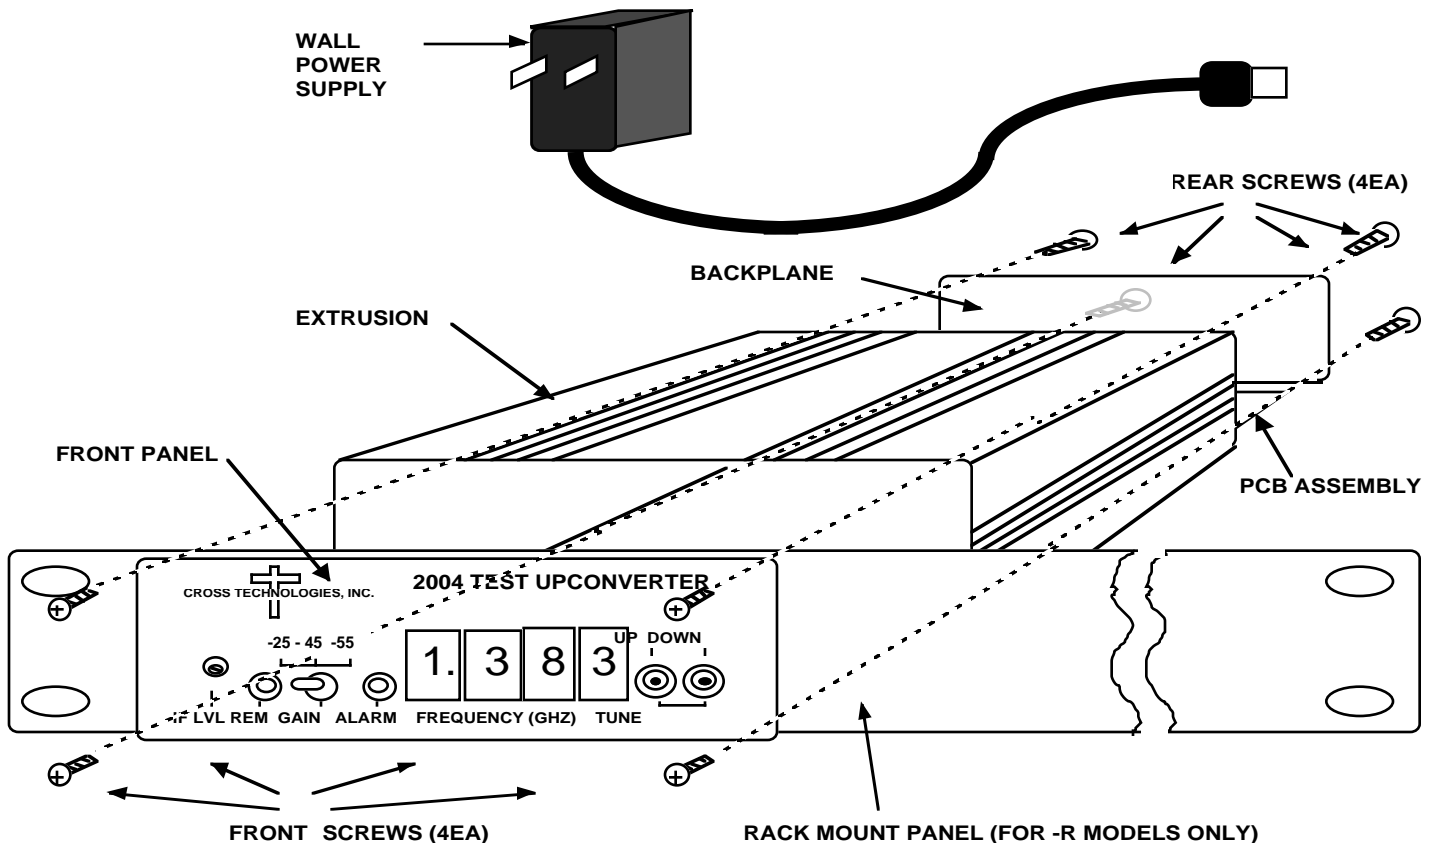
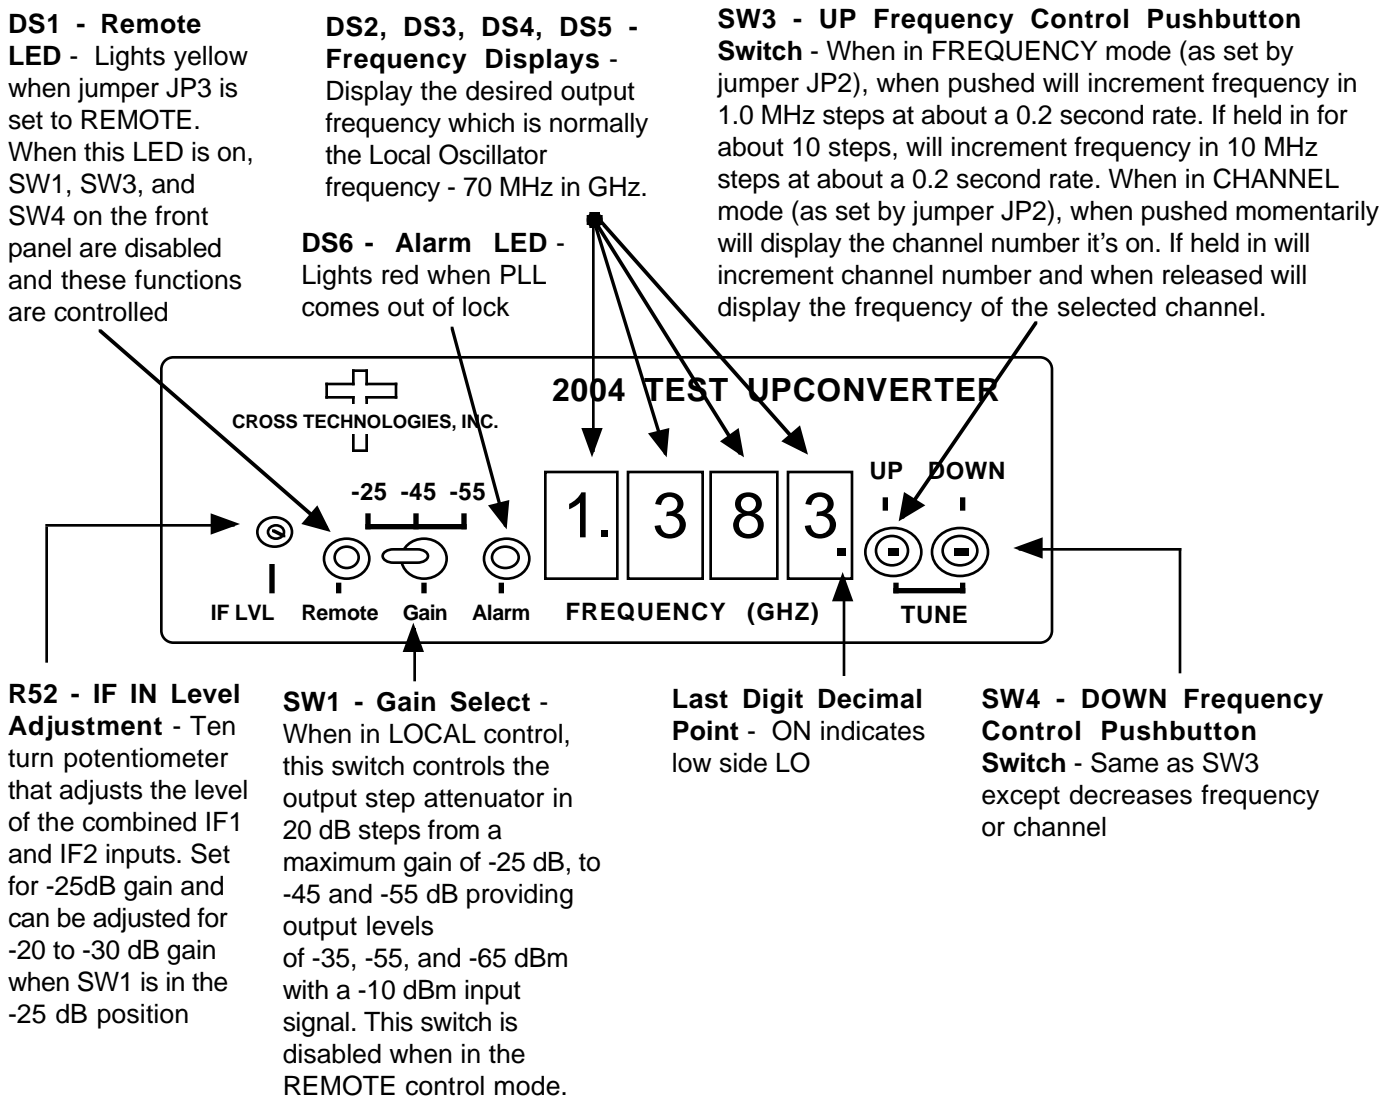
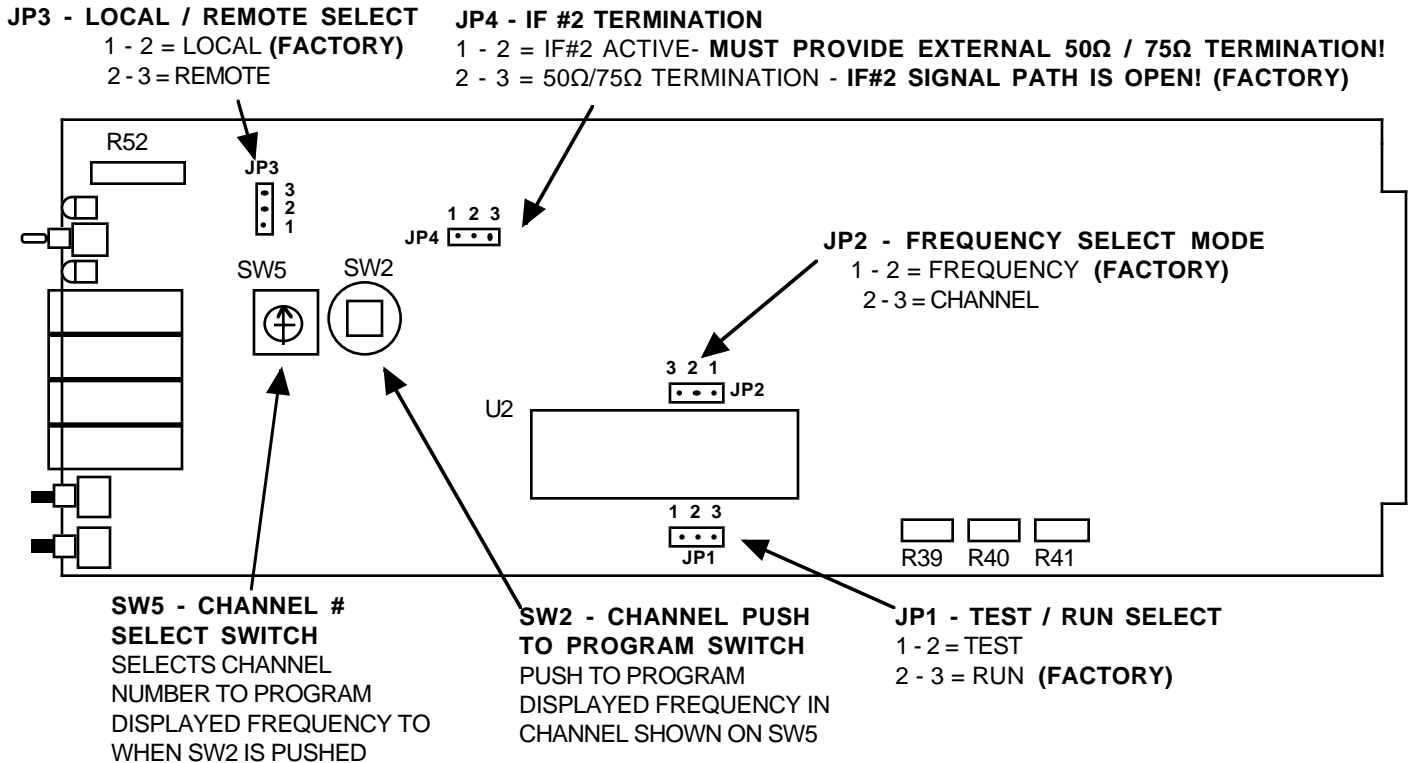

FIGURE 2.1 SERIES 2000 ASSEMBLY DRAWING
FIGURE 2.2 2003 Front Panel Controls and Indicators
FIGURE 2.4 2003 and 2003R On-Card Jumpers and Controls (See Section 2.4 for instructions on removing the PCB from the extrusion)
2.1 Mechanical - The 2003 and 2003R, for look-back applications, are packaged in an aluminum extrusion. The 2003R is mounted on a 1.75" X 19" panel that can be mounted to a rack using the 4 holes at the ends. Both units derive $\pm 15V$ from the wall power supply or an external regulated power supply such as the Cross Technologies, Inc. model 2000-01. (See Figure 2.1)
2.2 Controls and Indicators - Figure 2.2 shows front panel controls and indicators.
2.4 Accessing and Changing On-Card Jumpers and Controls - Figure 2.4 shows jumpers (with factory settings) and other on-card controls. To remove the printed circuit board (PCB) from the extrusion for access to the jumpers and controls:
- 1.) Remove four (4) **rear panel screws** (see Figure 2.1).
- 3.) With the **wall power supply disconnected**, move jumpers to the desired positions (Figure 2.4).
- 7.) Install four (4) **rear panel screws**.
- 1.) If required, check that on-card jumpers are set to the desired positions (Figure 2.4)
- 2.) Connect the wall power supply to the 2003 and the wall power supply to 115 VAC, 60 Hz (Figure 2.1)
- 3.) Connect a -10dBm signal to IF #1 In (Figure 2.1, Figure 2.3)
- 4.) Connect a -10dBm signal to IF #2 In (Figure 2.1, Figure 2.3). If this port is not used it must be terminated in $50\Omega/75\Omega$ by connecting on-card jumper JP4 in the 2-3 position (Figure 2.4).
- 5.) Set the desired frequency by pushing SW3 or SW4. If numbers 0 to 9 appear when pushing SW3 or SW4, the 2003 is set for the channel mode (with on-card jumper JP4, Figure 2.4). See section 2.5.2 for frequency setting information.
- 6.) Set SW1 for the desired gain (Figure 2.2).
- 7.) Be sure DS1 and DS6 are off (Figure 2.2).
- 8.) If needed, R52 can be adjusted (Figure 2.2) for input signals that are different than -10 dBm (-5 to -15 dBm). Note that this adjusts the levels of both IF #1 and IF #2 and uncalibrates the 2003 from its -10 dBm input setting.
- 2.) **To go to the change modes function**, simultaneously **press and release both the Up and Down pushbutton** switches (SW3 and SW4, see Figure 2.2). The current IF frequency is shown on the displays.
- 5.) **To check the selected IF frequency**, momentarily **press and release both the Up and Down pushbutton** switches (SW3 and SW4, see Figure 2.2)
2.5.4 Frequency Setting, Channel Mode - A second tuning mechanism is channel selection. This is accomplished when the on board three-pin jumper (JP2) (Figure 2.4) is set to the "channel" position. Ten preset channels (0-9) can be selected as follows:
1. The 2003 PCB is removed from the extrusion (see section 2.4 for instructions) to access the channel selecting decimal switch (SW5) and the push to program switch (SW2) (Figure 2.4). With the display mode jumper (JP2) set in the frequency mode, the frequency set switches (SW3,SW4) are pushed to the frequency desired (Figure 2.2).
2. The decimal switch (SW5) is set to the channel number desired to be programmed (Figure 2.4).
3. Push programming button (SW2) to program the displayed frequency into that channel number (Figure 2.4).
5. When finished, set JP2 (Figure 2.4) in the "Channel" position if this tuning mechanism is desired.
2.5.5 Remote Operation - Frequency control and setting of the output attenuator can be remotely commanded from an external (not supplied) PC using a simple DOS program. To place the 2003 in the Remote mode, place on-card jumper JP3 in the REMOTE (pins 2-3) position (Figure 2.4) and observe yellow LED DS1 (Figure 2.2) is on. Serial ASYNC (8N1) data is received via RS232C receiver U4 and sent via RS232C transmitter U13 at a 9.6kB/s data rate. When in the remote mode, either frequencies or channel numbers can be provided, but programming the frequencies of the channels can only be done locally. When in the remote control mode, the selection of U6 and consequently the output attenuator U16, U24 is controlled through the remote serial port disabling the function of front panel attenuator control switch SW1 and providing gain selection of -35 dB, -55 dB or -65 dB.